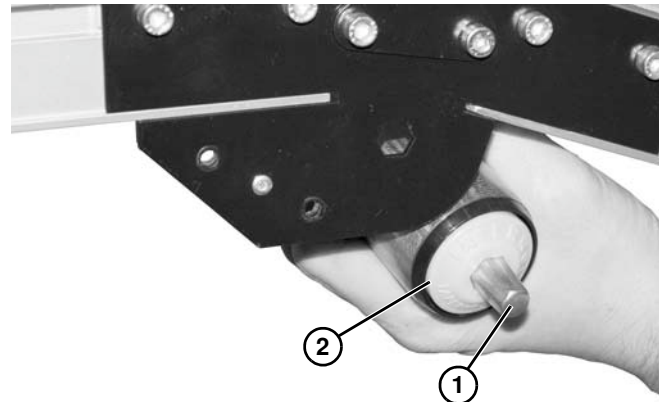

Figure 135
- b. For 5" (127 mm) or wider conveyor, push spring-loaded shaft ends (**Figure 135, item 1**) inward. Remove roller (**Figure 135, item 2**).